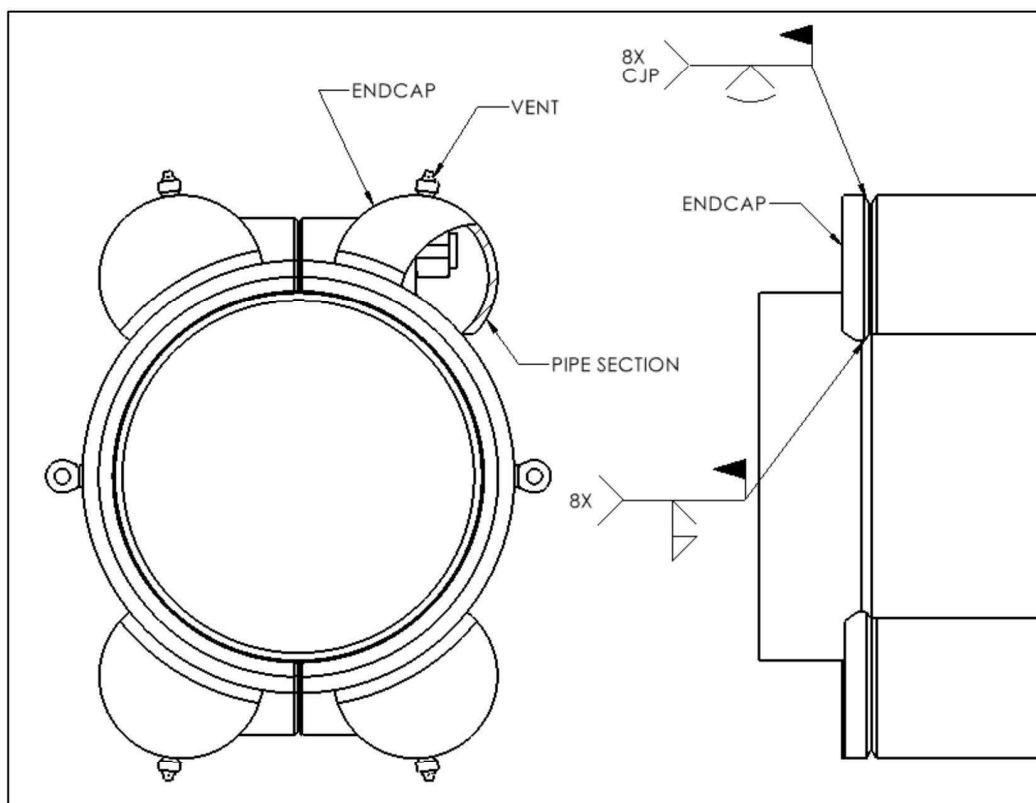

Figure 3
5. Fit the End Caps onto the ends of the Sleeve and Pipe Sections and weld as shown in Figure 3.